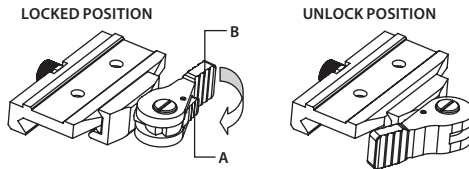

FIGURE 3-4. MOUNT. TOP VIEW
3. Unlock the clamping device of the CO-MINI mount by pushing down on the lever holder (A, Figure 3-4) and unlocking the cam lever (B).